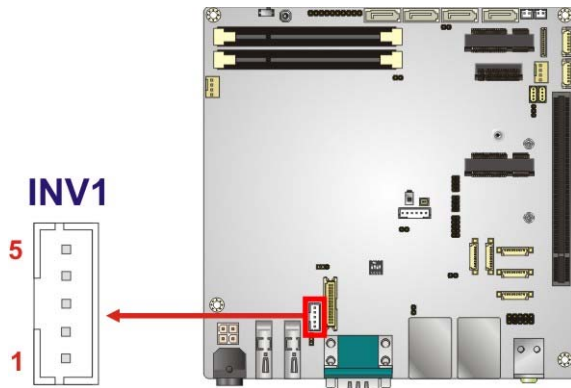

Figure 3-13: LVDS Backlight Inverter Connector
- CN Location:** See **Figure 3-13**